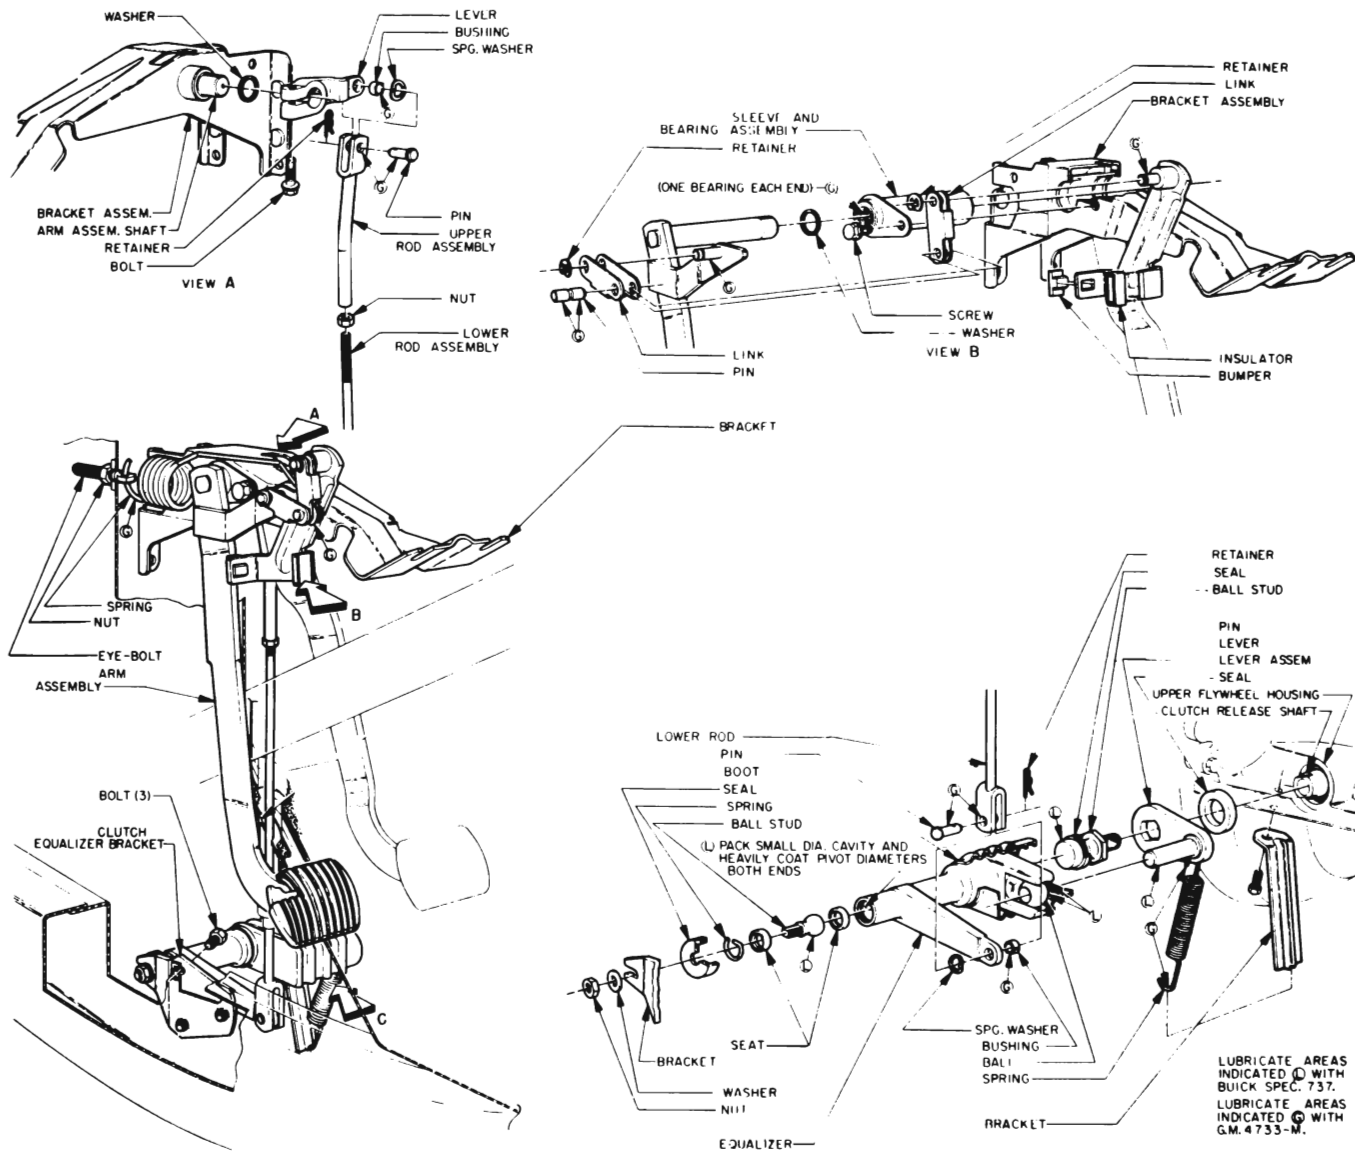

Figure 4-3—Clutch Linkage
The upper clutch release rod is fastened to the clutch release lever (see Figure 4-3). The lower end of the release rod is fastened to the clutch equalizer with a clevis and retainer. Clutch adjustment is obtained on the lower clutch release rod.
1. Make certain that clutch pedal returns firmly against pedal bumper when pedal is released. If pedal does not contact bumper, check pedal and linkage for binding or lack of lubrication. See Figure 4-3.